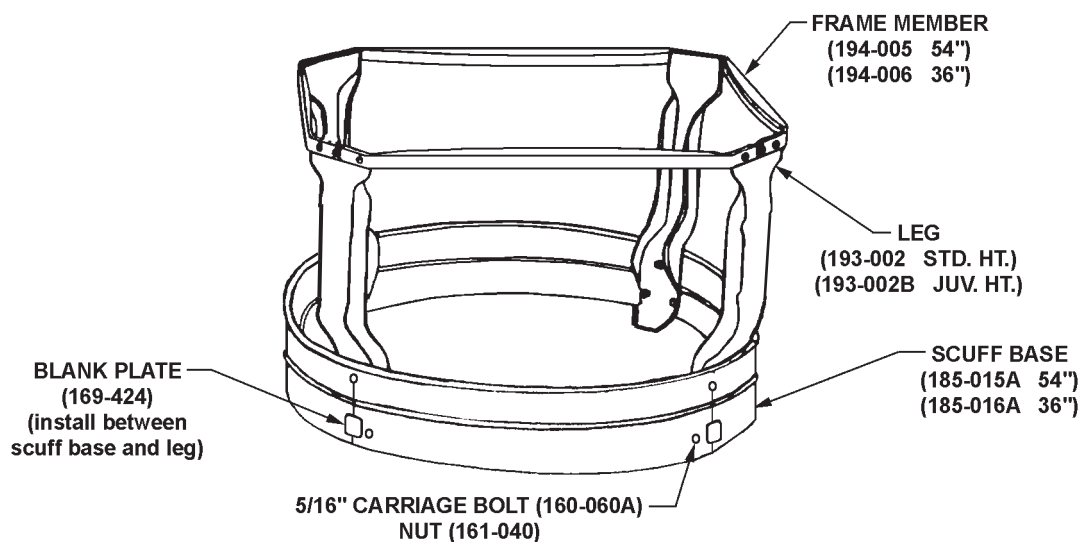

Figure 2
1. Assemble the leg and scuff base panels with the 5/16" carriage bolts and nuts provided (Figure 2).
2. Attach the pedestal frame members with the 5/16" stove bolts and nuts provided (Figures 2 and 3).